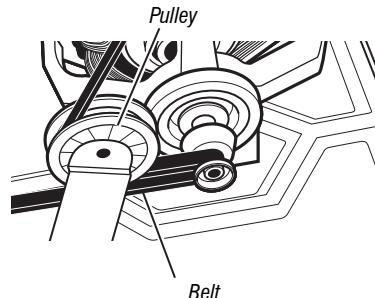

Figure 6 - Slowly remove drum belt.
5. With an ohmmeter, check for continuity between the neutral (N) terminal of the plug and J8-3 (white wire) on the ACU. The left-hand side of figure 6 shows the position of the neutral terminal (N) on the power cord plug. Also see figure 1, page 17.
- If there is no continuity, check the continuity of the power cord in a similar way to that illustrated in figure 6, but for power cord's L1 wire.
7. Check the drive motor. Slowly remove the drum belt from the spring-loaded pulley, gently letting the pulley down. See figure 6.